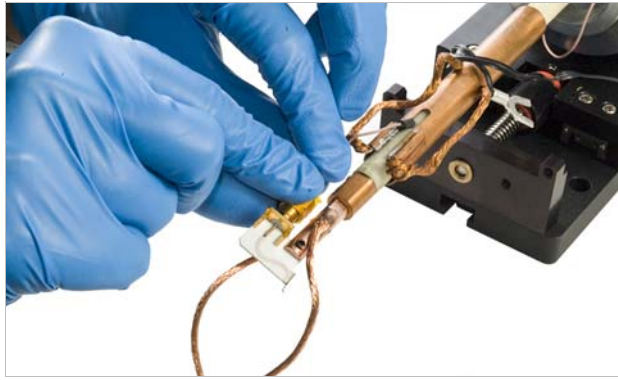

FIGURE 3-33 Disconnect the SMA
2. Disconnect the SMA connector. The strain relief to the SMA connector (on the cryogenic coaxial cable) must be held in place with tweezers or your fingers while removing the SMA plug (FIGURE 3-33).